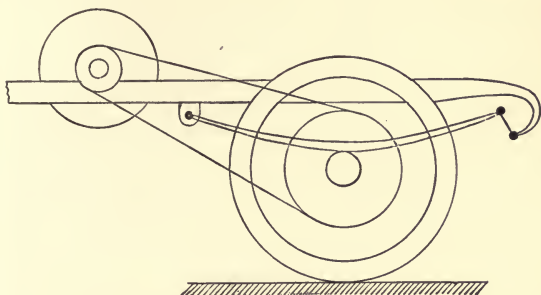

Fig. 2.
4. The crank-shaft of a motor-car engine with a heavy fly-wheel is set transversely to the frame and drives the back axle by a direct chain drive as shewn in fig. 2. The front sprocket wheel is connected to the engine shaft by means of a friction clutch. The car is standing still with the engine running light at angular velocity  $\omega$ , when the clutch is suddenly let in, shew that the momentum of the flywheel will impart to the car a velocity